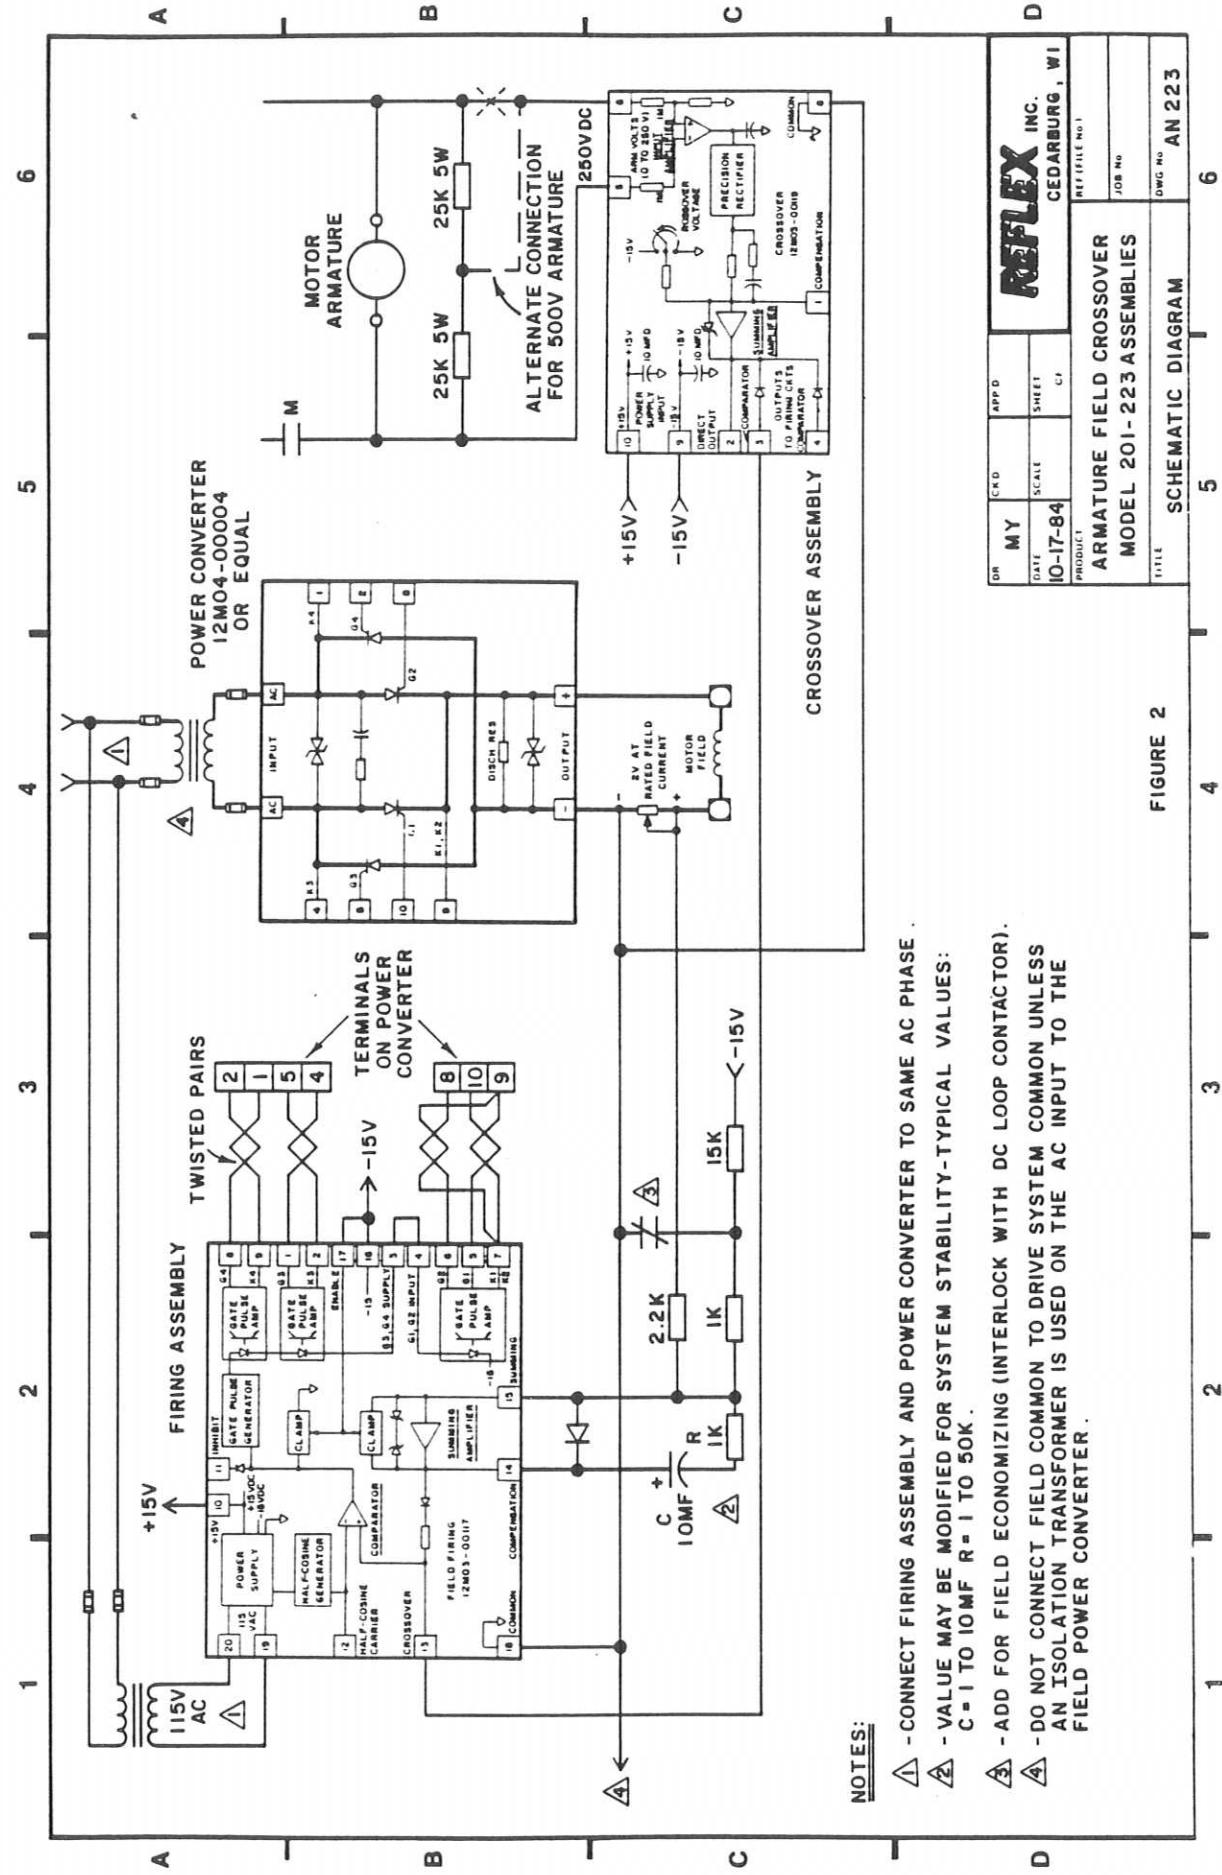

FIGURE 2
3. The Model 223 Crossover Assembly is connected to the Model 201 Field Firing Assembly and Power Converter as shown in Figure 2.